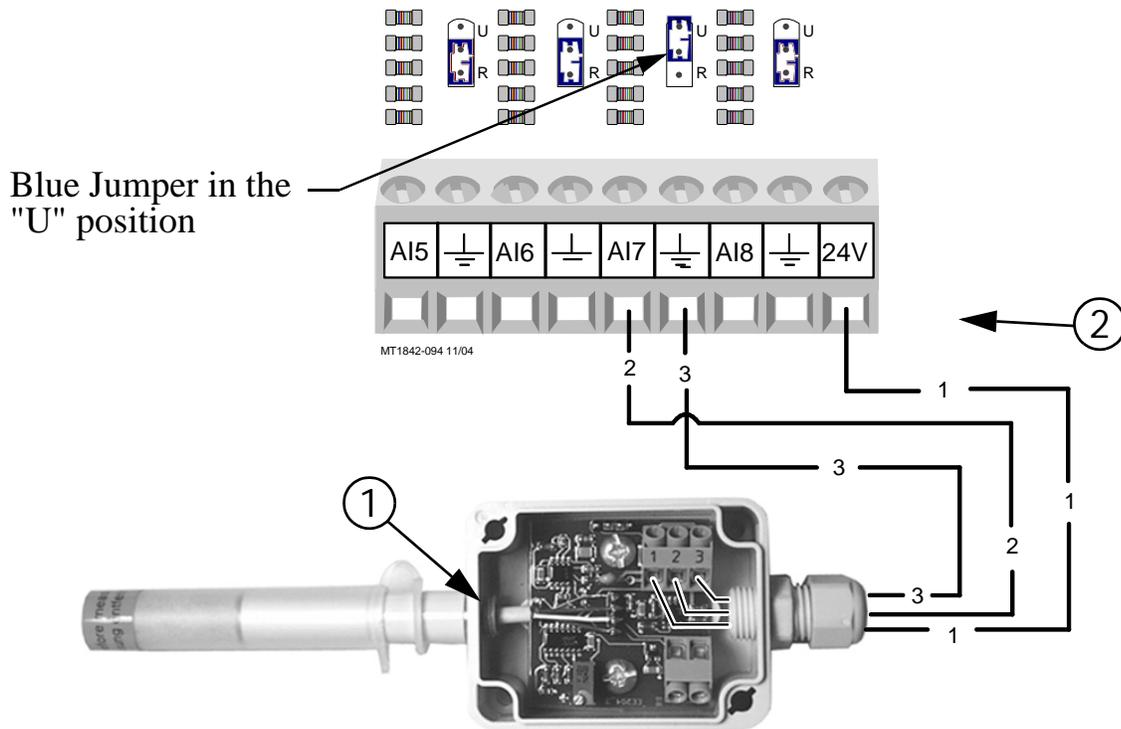

Figure 91. Relative Humidity Sensor Wiring
The optional Relative Humidity Sensor (**Item 1, Figure 91**) requires a three-conductor wire to connect the sensor to the Chore-Tronics® 2 I/O board. The Sensor is connected to one of the Analog (AI) Inputs on the IO board.